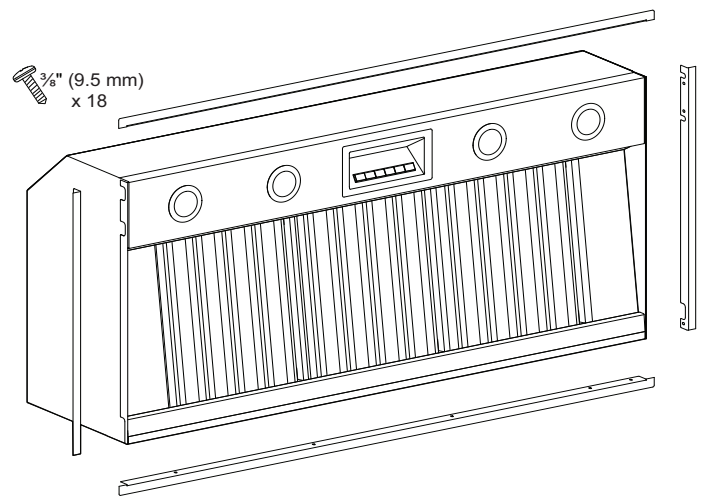

Figure 29: Trim Installation
- Hold trim flush to the bottom of the housing. Secure the trim to the hood with eighteen (18) x $\frac{3}{8}$ " (9.5 mm) screws, as indicated in Figure 29.